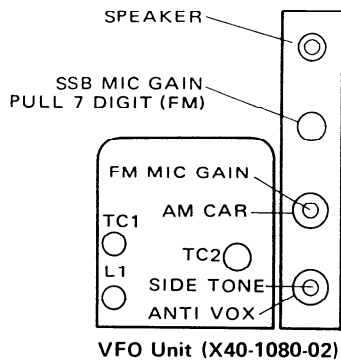

Fig. 24
* See Fig. 24
- (1) Connect frequency counter to TP-2 of Het Unit.
- (2) Turn VFO dial one turn of small tuning knob from fully clockwise. Adjust the dial attaching screw so that the pointer indicates "1000", the Freq. counter shall read 9,20000 MHz.
- (3) Verify the tracking of VFO per **Table 7**.